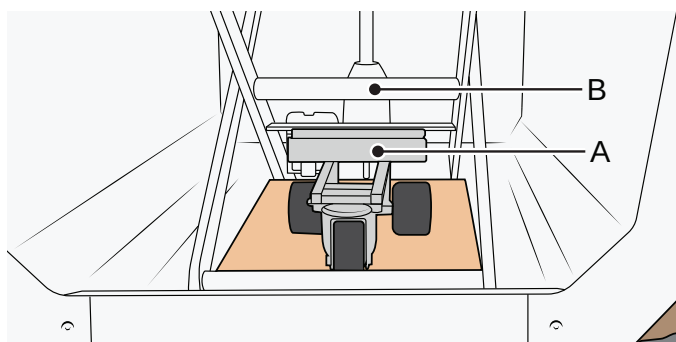

Figure 9
Place the trolley (A) centred underneath the centre beam (B). See Figure 9.